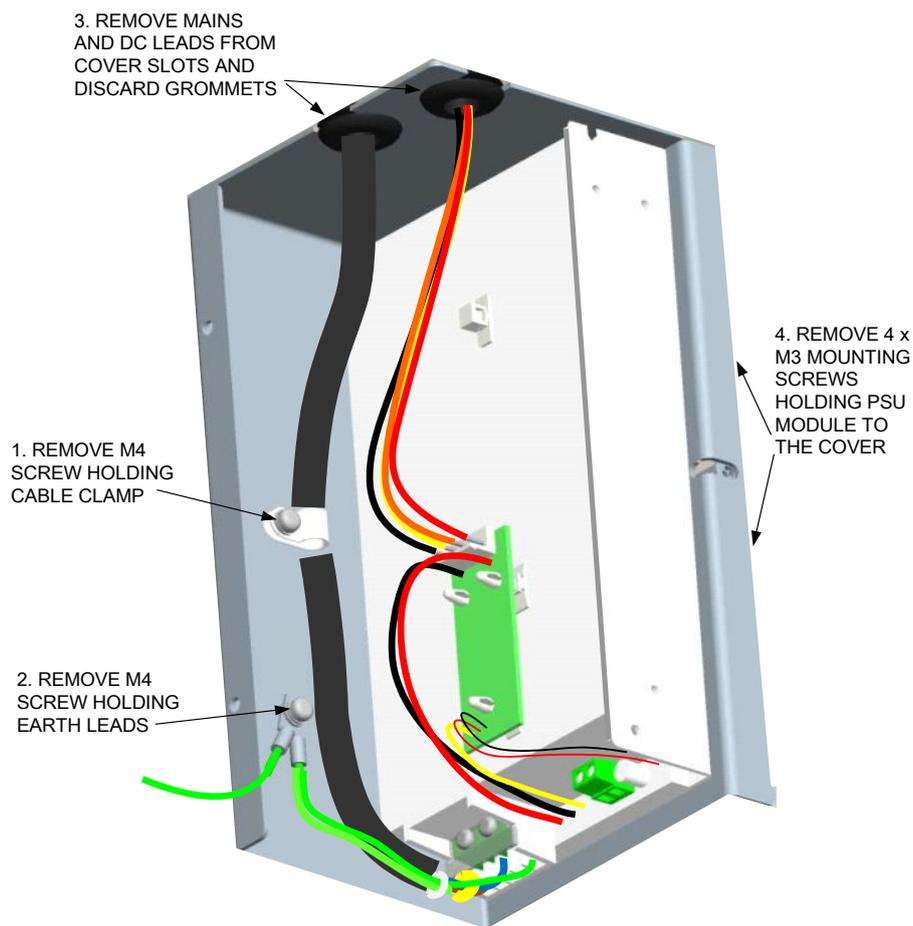

Figure 2 – Power Supply Preparation by Removing the Cover
2. Remove the cover from the replacement PSU as shown in Figure 2. The M4 screws recovered during this operation may be reused in the MX1 gear plate, if necessary.